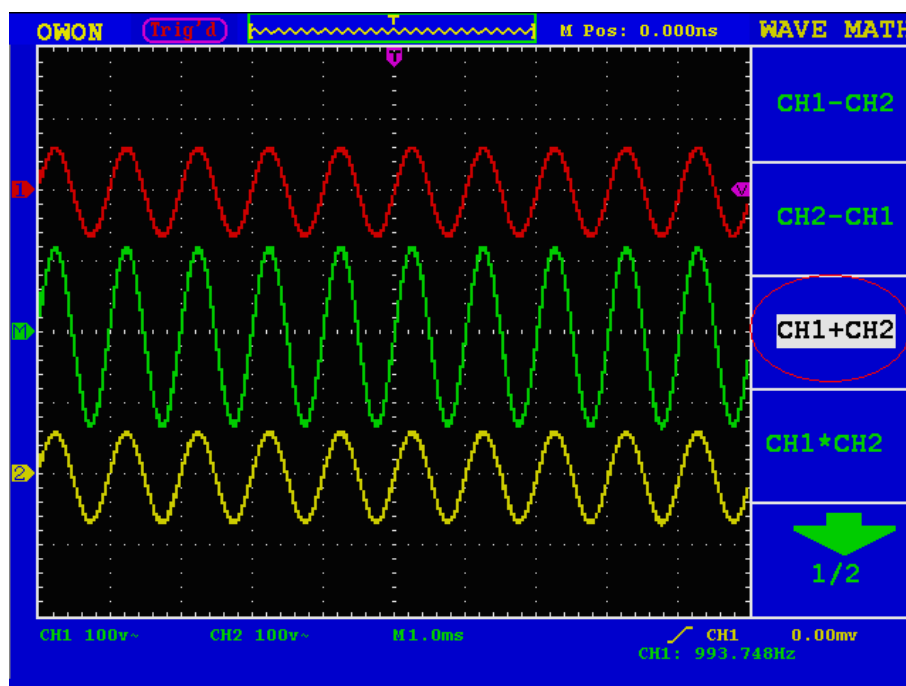

Fig. 5-8 Wave Form result from CH1 +CH2 Mathematical Manipulation
2. Press the **F3** menu selection button and choose **CH1+CH2**. The green calculated wave form M is displayed in the screen; press the **F3** menu selection button again, the wave form M is closed off (see Fig.5-8).